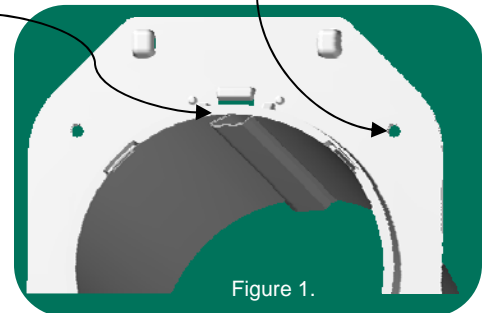

Figure 1.
- ◆ Assemble tube and attach to faceplate with seam oriented up (see Figure 1).
- ◆ Fasten faceplate to building with screws using concealed mounting pattern (see Figure 1).